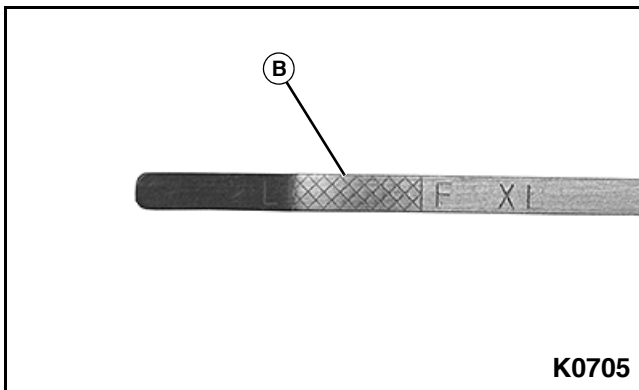

Figure 5-12
5. Pull out the dipstick again to check the oil level. The oil level (B) should be maintained between the F (full) and L (low) marks. See Figure 5-12.